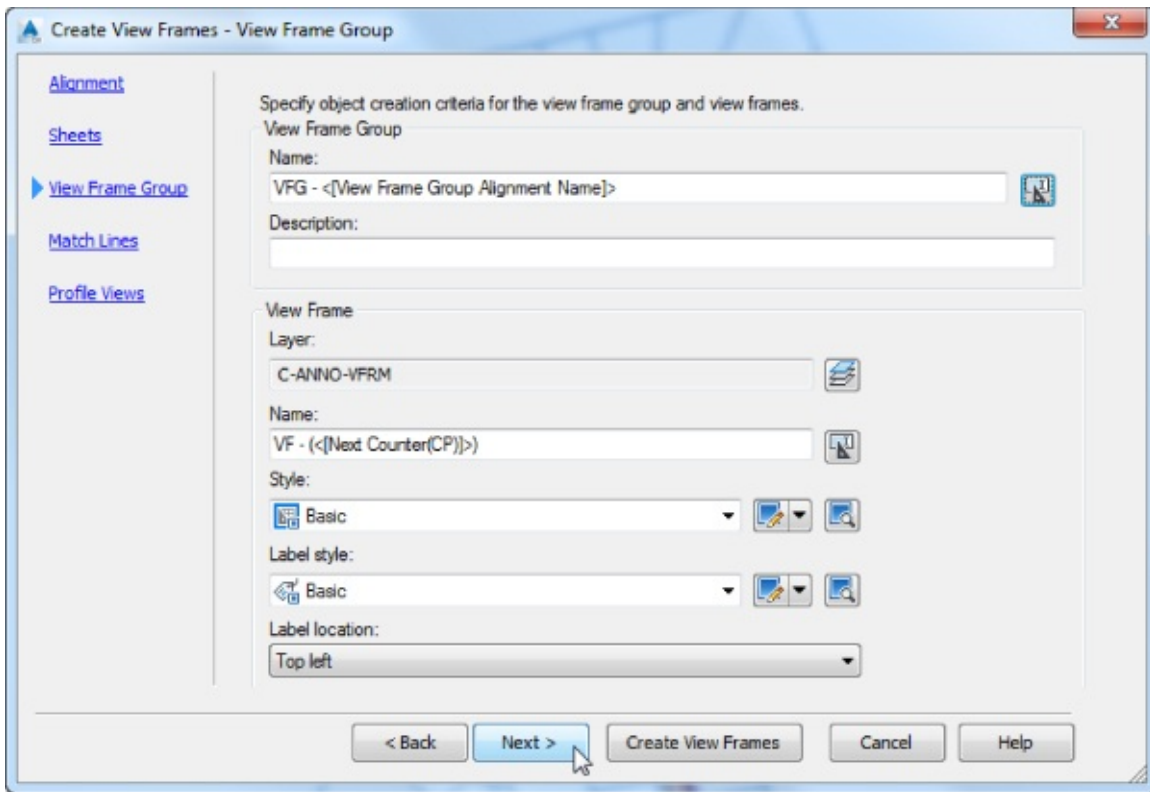

Figure 15.6 Create View Frames – View Frame Group wizard page
You use the third page of the Create View Frames Wizard (Figure 15.6) to define creation parameters for your view frames and the view frame group to which they'll belong. The page is divided into two areas: the top for the view frame group and the bottom for the view frames themselves.
With the settings shown previously in Figure 15.6, the name will include manually defined prefix text (VFG -) followed by automatically generated text, which inserts the view frame group alignment name and a sequential counter number. This will result in a view frame group name of, for example, VFG - Frontenac Drive - 1.
Name The Name setting is nearly identical in function to that of the View Frame Group Name setting discussed earlier. With the settings shown previously in Figure 15.6, the default naming results would be VF - 1, VF - 2, and so on.
5. On the View Frame Group page, confirm that all settings are as follows (these are the same settings shown previously in Figure 15.6), and then click Next to advance to the next page: